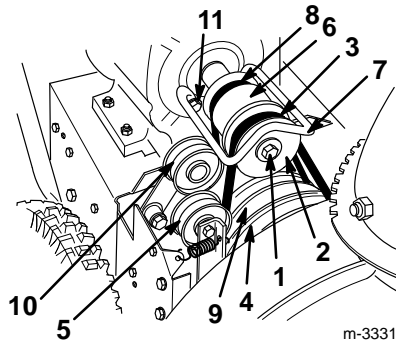

Figure 28
When the traction belt (Fig. 28) becomes worn, oil-soaked, or otherwise damaged, replace the belt. You can purchase a new belt from your Authorized Service Dealer.
5. Remove two screws, two washers, and two lock washers that secure the belt guide (Fig. 28).
6. Remove the engine crankshaft screw, lock washer, and washer (Fig. 28).
7. Separate and remove the engine pulley sheave (Fig. 28).
9. Remove the center engine pulley (Fig. 28).
10. Remove the traction belt from the traction pulley and the engine crankshaft (Fig. 28).
11. Pull the traction idler pulley outward and install a new traction belt (Fig. 28).
13. Pull the idler pulley outward and loop the auger/impeller drive belt in front of the center engine pulley, making sure that the belt is on the inside of the idler pulley and the belt guide (Fig. 28).
When the auger/impeller drive belt (Fig. 28) becomes worn, oil-soaked, or otherwise damaged, replace the belt.
- Remove two screws, two washers, and two lock washers that secure the belt guide (Fig. 28).
- Remove the engine crankshaft screw, lock washer, and washer (Fig. 28).
- Separate and remove the engine pulley sheave (Fig. 28).
- Remove the auger/impeller drive belt from the center engine pulley and the large auger/impeller pulley (Fig. 28).
- Pull the idler pulley outward and install a new belt around the large auger/impeller pulley (Fig. 28).
- Loop the belt in front of the center engine pulley, making sure that the belt is on the inside of the idler pulley and the belt guide (Fig. 28).